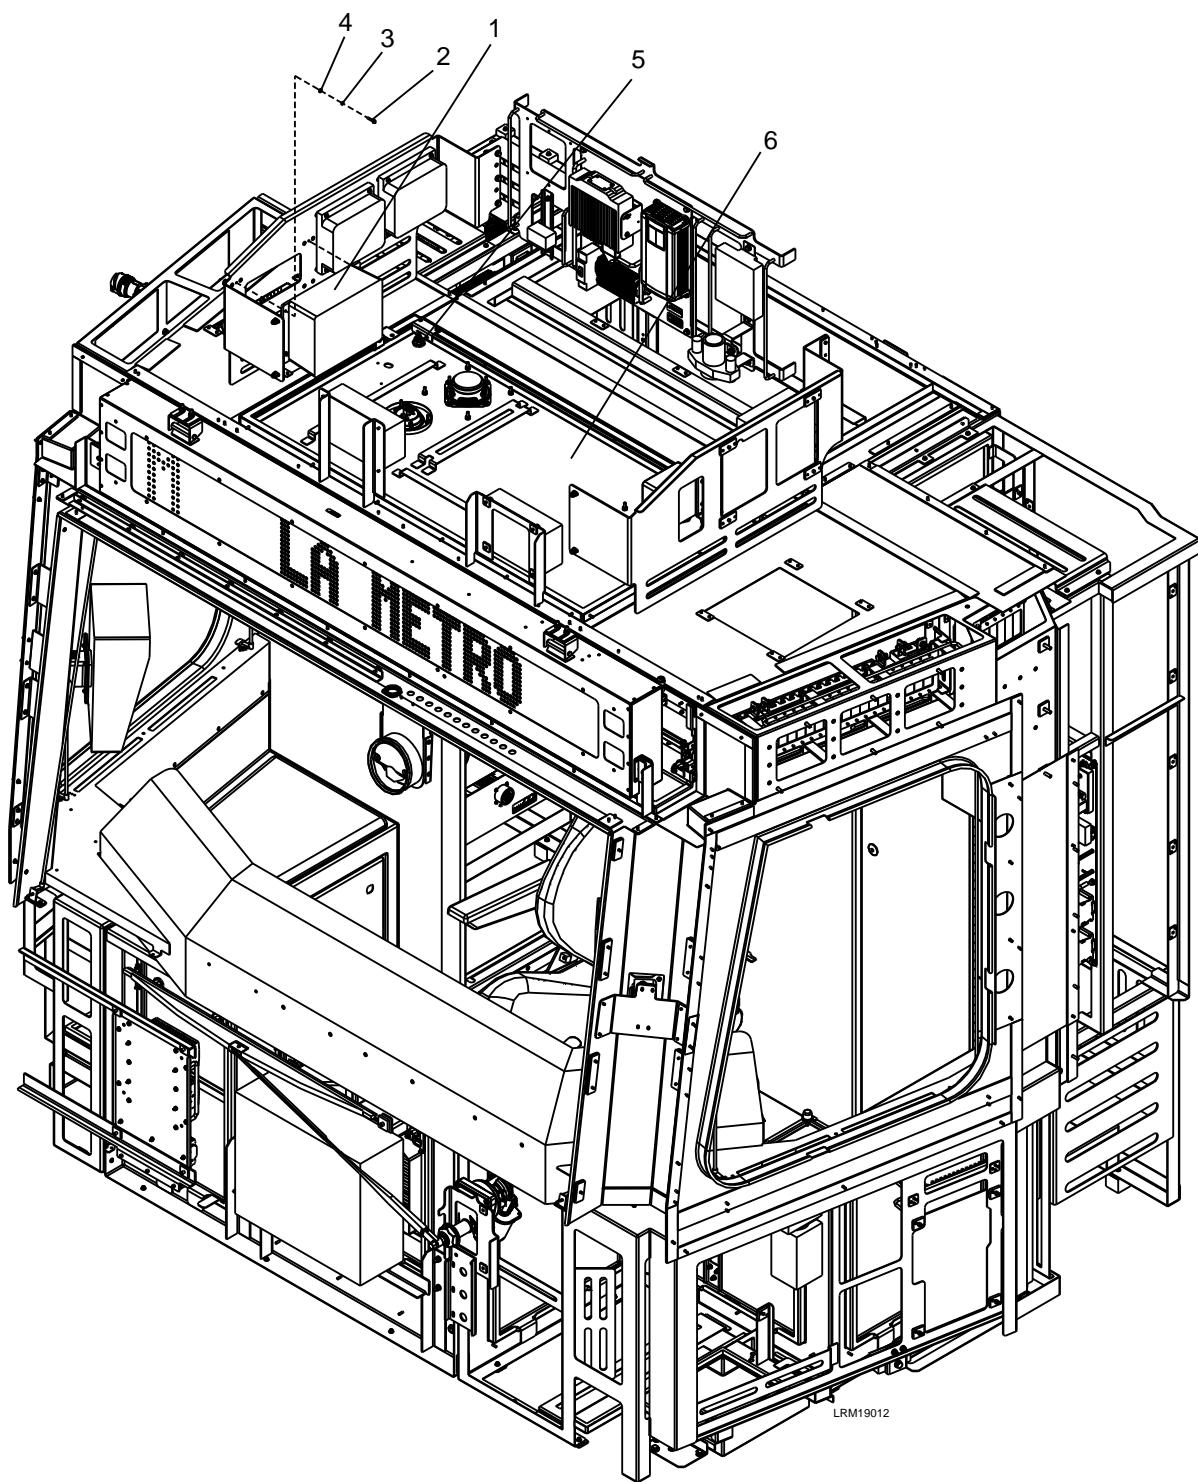

Figure 7-10: PoE Switch (Ethernet)
1. Unlock the two locks (5) and lower the cab ceiling panel (6) to access the PoE Switch (1) and disconnect the electrical connection. See Figure 7-10.
2. Remove the four M4 x 20 screws (2), M4 lock washers (3), and M4 plain washers (4).
3. Carefully remove the PoE Switch (1).